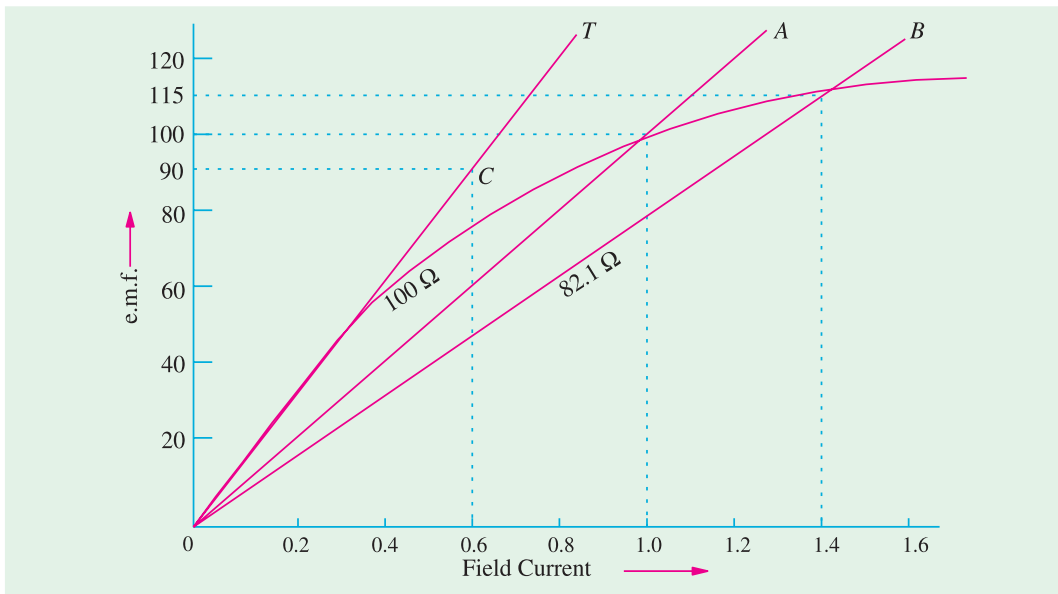

Fig. 28.12
**Solution.** The O.C.C. has been plotted in Fig. 28.12. The shunt resistance line OA is drawn as usual.